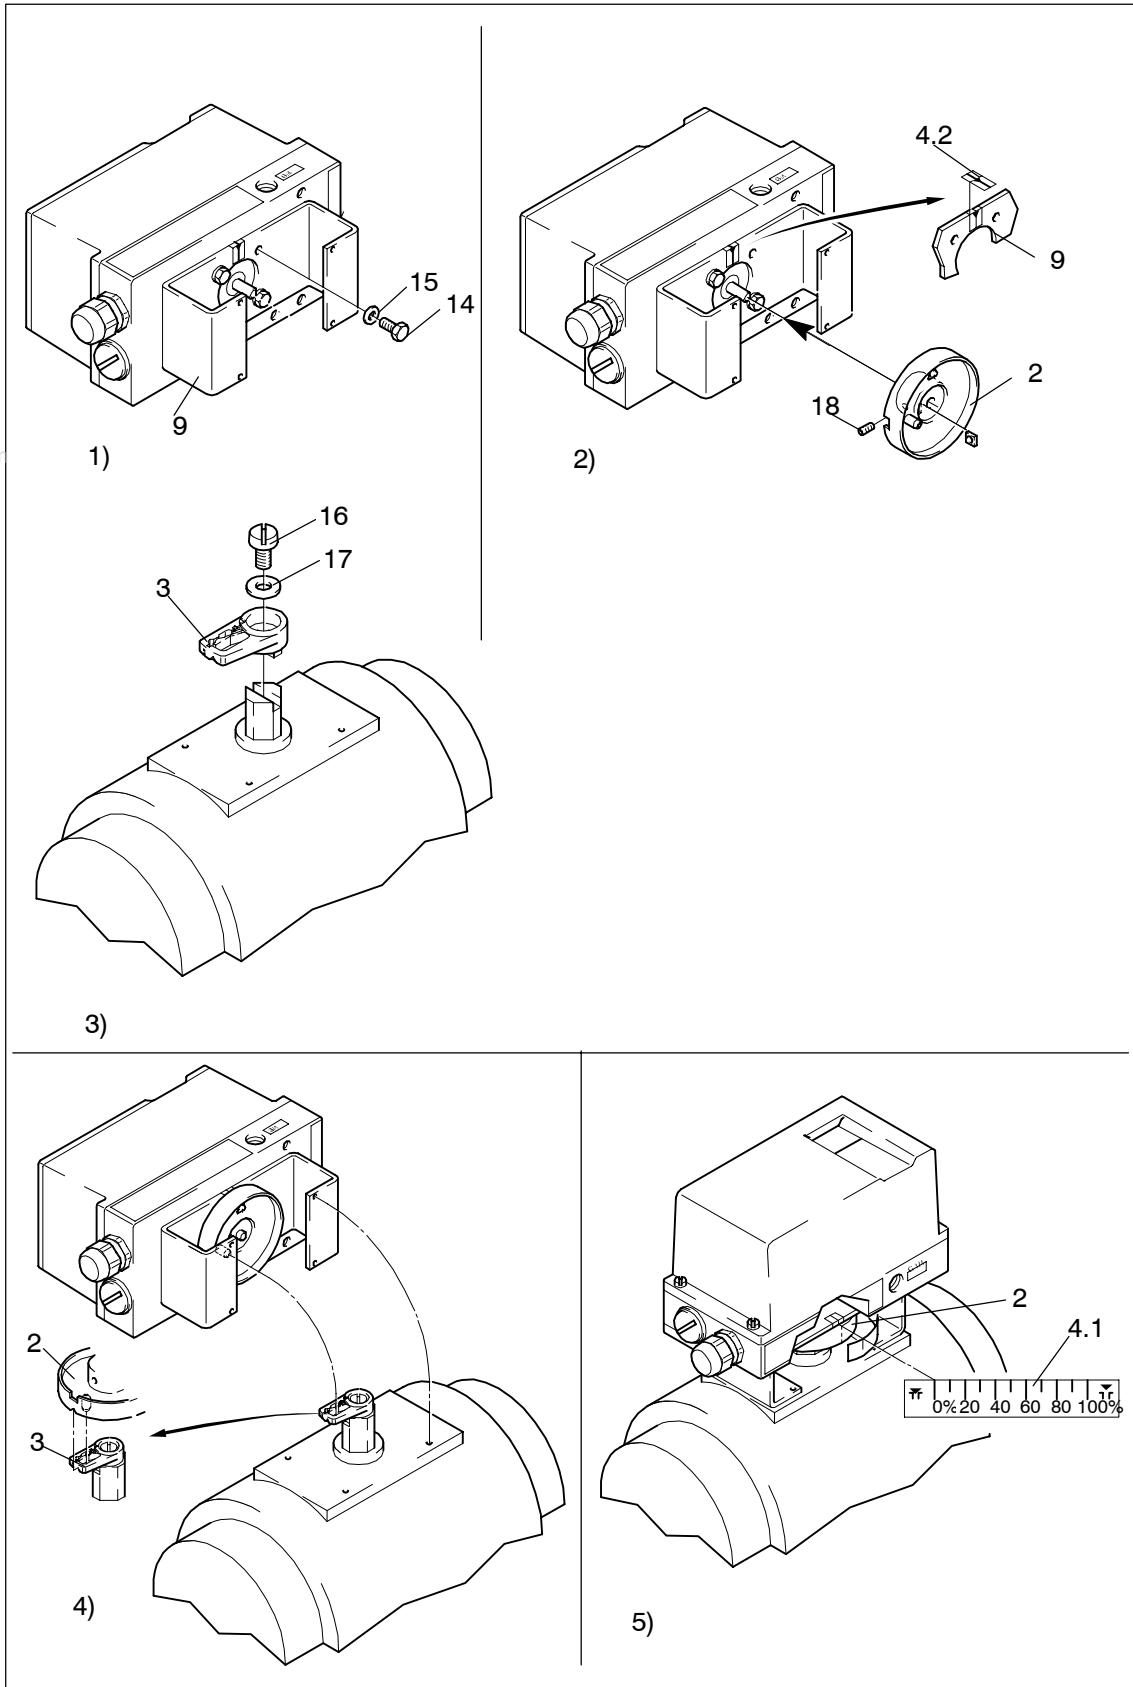

Figure 3-7 Assembly procedure (rotary actuator)
The *scope of delivery of the mounting kit "Rotary actuator"* contains (ser. no. see figures 3-7 and 3-8):
3.3.6 Assembly procedure (see figure 3-7 and figure 3-8)